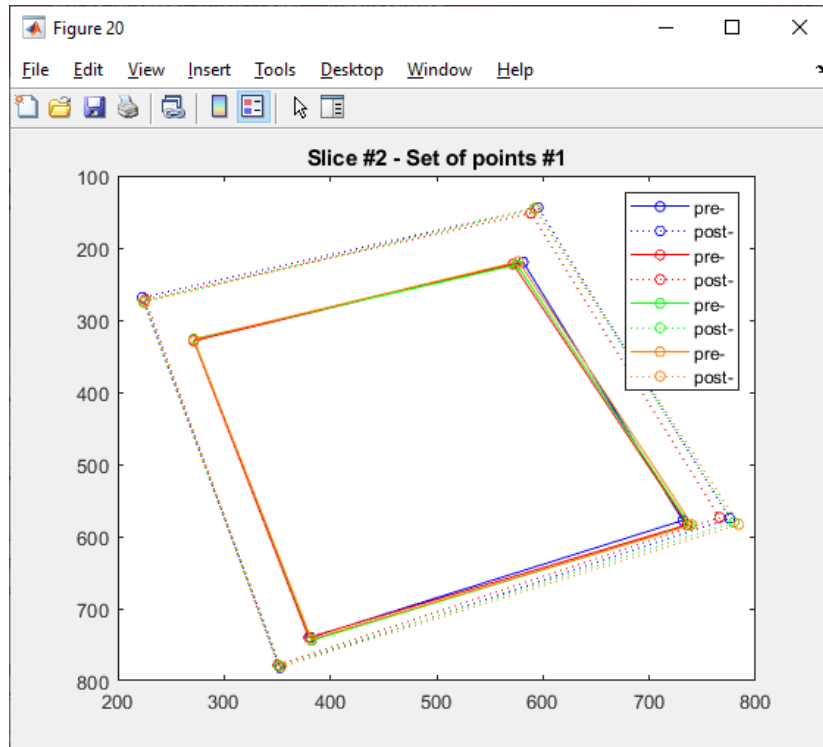

Fig. 109: Matlab figure overlaying the selected markers on the un-stretched image (i.e., at the flush position, or 0% strain) and stretched image.
- Figures in the 10's (as shown in **Fig. 109** of this manual) display in a single plot, the points selected for the undeformed and deformed images for the different slices or areas of interest. With these figures, you may compare how repeatable the selections of points were, as well have a general idea of the deformation of the membrane.